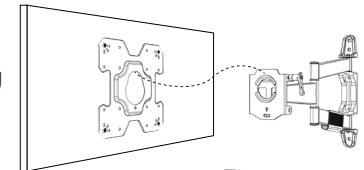

Fig 5
- Attach Adapter Plate and Display onto Wall Arm Assembly, ensuring the hook slides into the adapter hole. (Fig 5).